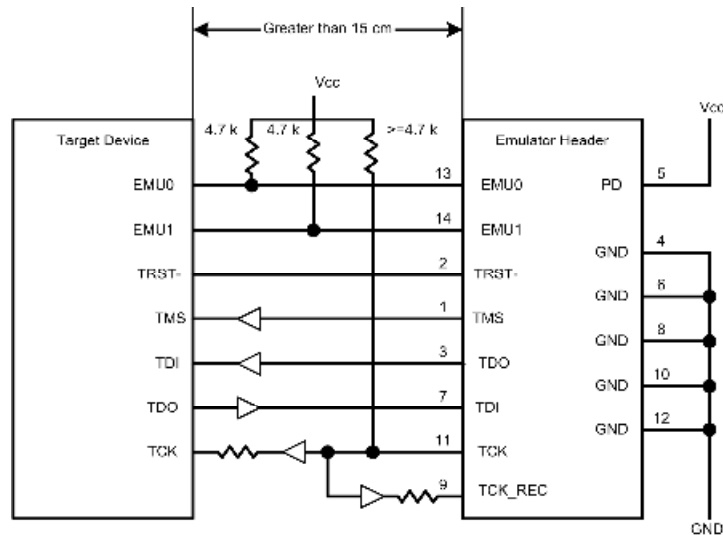

Figure 3-7. Buffered Emulation Signals
- **Buffered emulation signals.** Figure 3-7 shows that the distance between the emulation header and the target device is longer than 15 cm. The target device signals TMS, TDI, TDO, and TCK_RET are buffered through several additional units.